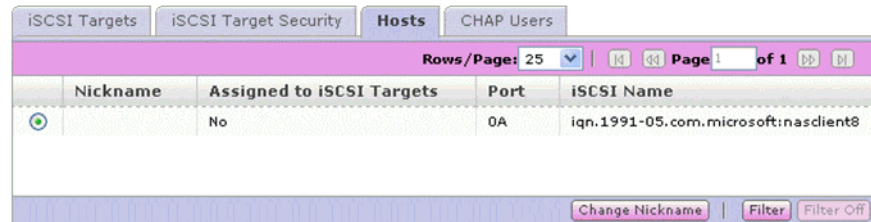

Figure 8-41: iSCSI Target Window — Hosts Tab
1. From the iSCSI Targets window, click the **Hosts** tab as shown in Figure 8-41 on page 8-45.